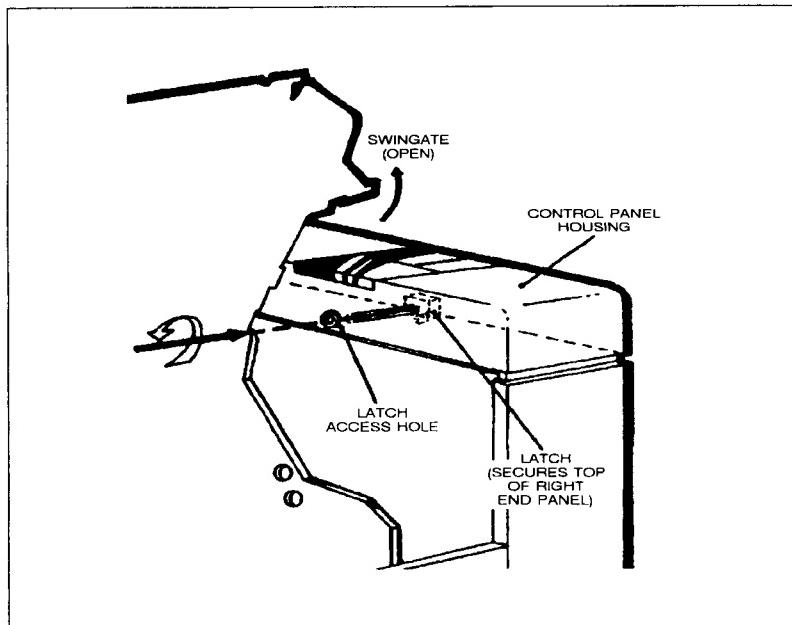

Figure 6-6. Right End Panel Removal using Shim Stock/Credit Card
- b. Insert a long shanked 4 mm Allen-head driver through the access hole located on the inside right wall of the control panel housing under the Operator Control Panel (see Figure 6-6).
If a long shank 4 mm Allen wrench is not available, a 5/32 inch Allen wrench or small flat blade screwdriver may be used. In a situation where none of these tools are on hand, you can insert a thin plastic card (credit card), between the Operator Control Panel housing and the top of the right end panel, to trip the latch (see Figure 6-6).